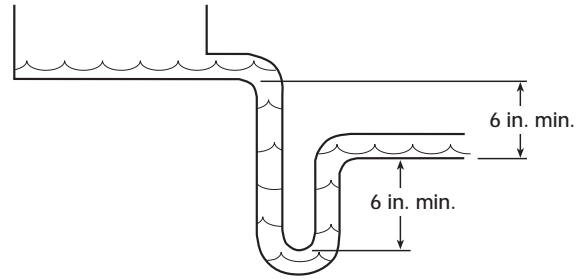

FIGURE 11: Drain pan trap dimensions.
6. For chilled water coils, the condensate drain pipe should be sized adequately to ensure the condensate drains properly. See **Drain Pan Traps** and **FIGURE 11**.
2. The condensate drain pipe should be sized adequately to ensure the condensate drains properly. See **Drain Pan Traps** and **FIGURE 11**.